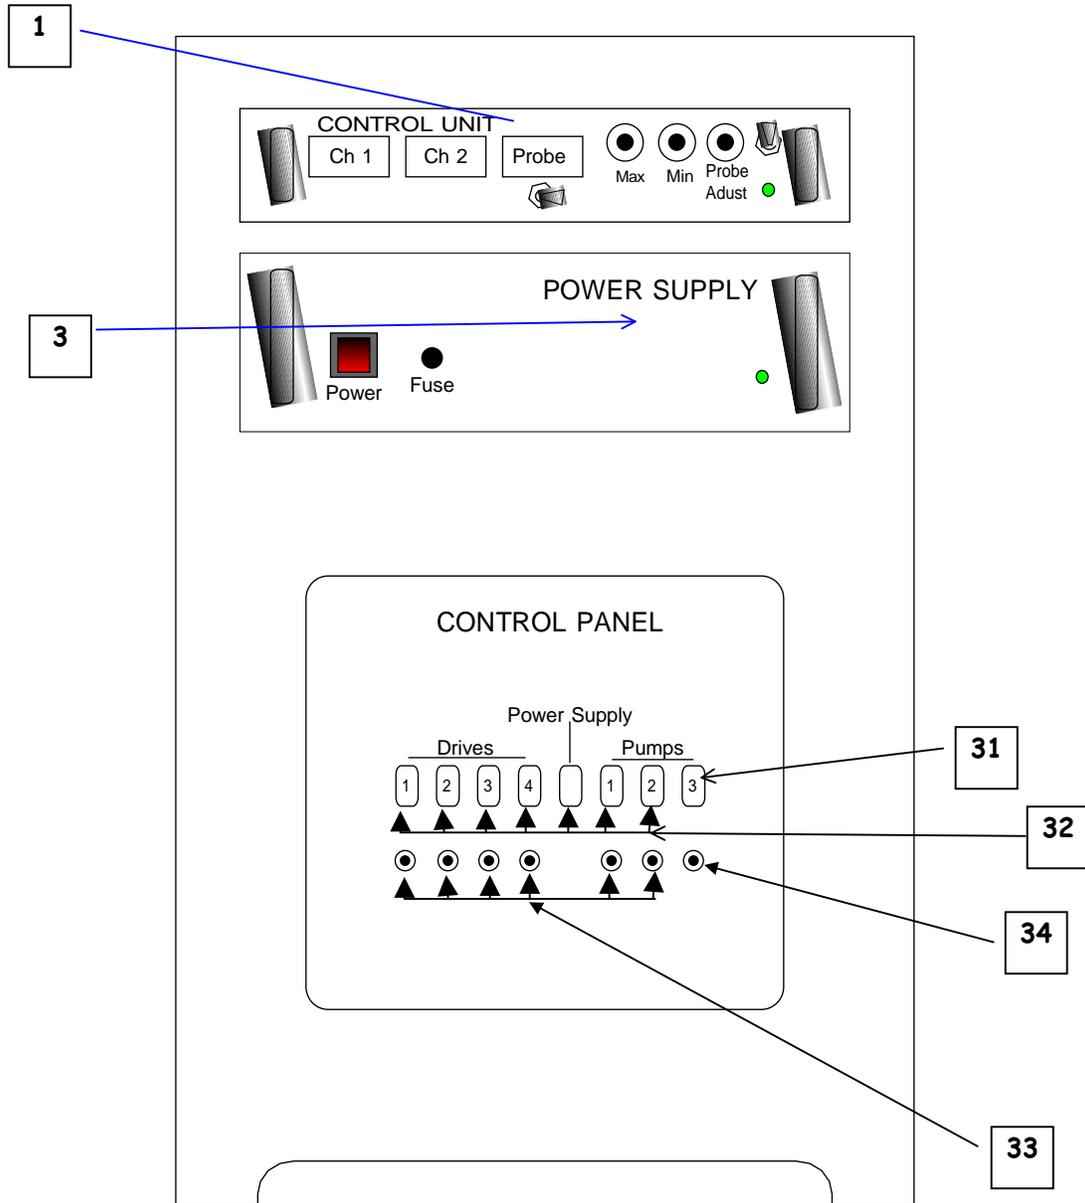

FIGURE 4-1: Power Supply Cabinet/Front View
- 4.2.2 Switch on item #32, Figure 4-1 on the control panel to the Auto position. Pump 3, item 31, must always be left in “on” position. (If pump 3 must be turned off, the power switch on the Silver analyzer must be in the off position prior to pump 3 being shut off).
- 4.2.3 Switch on control unit to auto, item #1, Figure 4-1 and power switch on Power Supply.
4.4.1 All switches (item 32, figure 4-1) are to be in the manual position.
4.4.2 Pump 3 (Item 31, figure 4-1) must remain in the ON position.